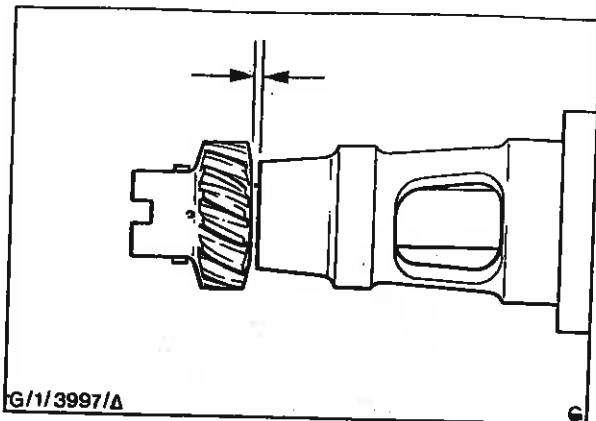

Fig. 7 - Skew Gear to Pump Body Clearance
Reassembly - Refer to Fig. 7
2. Press the skew gear onto the shaft until a clearance of 0,13 to 0,38 mm (0,005 to 0,015 in) is obtained between the gear and the pump body, with the rotor flush with the end plate face (Fig. 7).
#### Assembly - Refer to Fig. 7